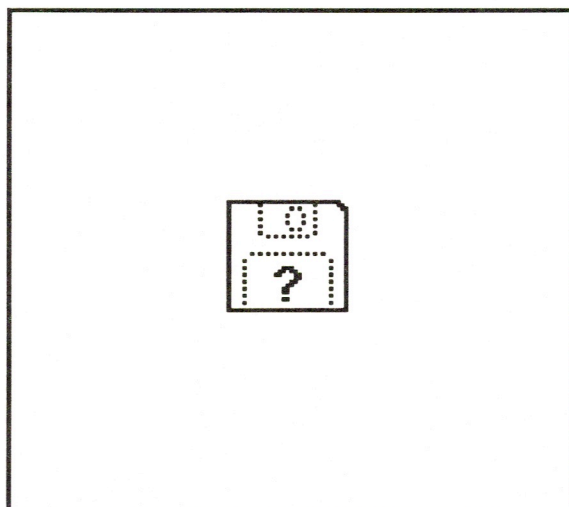

**Figure 36. Power On on the Apple ADB Keyboards**
18. Turn on the system power by pressing the keyboard's Power On key shown in Figure 36. A chime indicates that the computer has started.